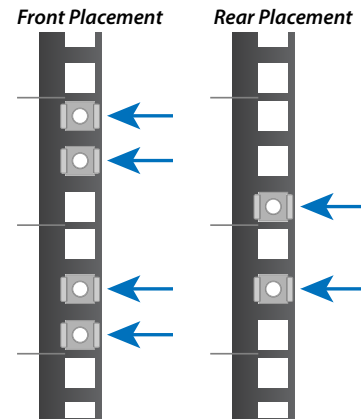

Figure 2.1a
2. Install the included cage nuts into your rack using **Figure 2.1a** as a guide for cage nut placement within the 2U's that have been designated for Jupiter.